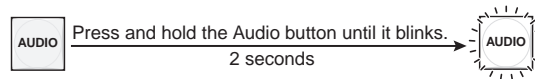

Figure 3-67 — Select Audio mode
2. Press and **hold** the Audio button for approximately 2 seconds (figure 3-67).